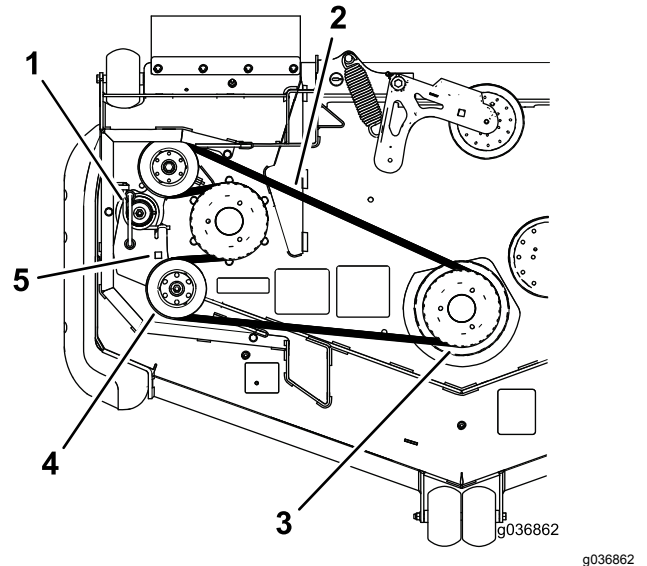

Figure 88
7. Use a ratchet in the square hole in the idler arm to remove tension on the idler spring (Figure 88).
8. Remove the belt from the mower deck pulley (Figure 88).
9. Remove the belt from the remaining pulleys (Figure 88).
11. Using the ratchet in the square hole, remove the tension on the spring, and guide the new belt around the idler pulley (Figure 88).